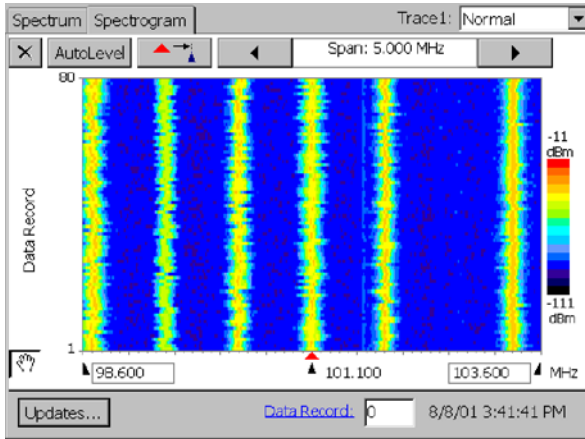

Figure 3-16: A spectrogram
3. Select the **Spectrogram** tab. See Figure 3-16.